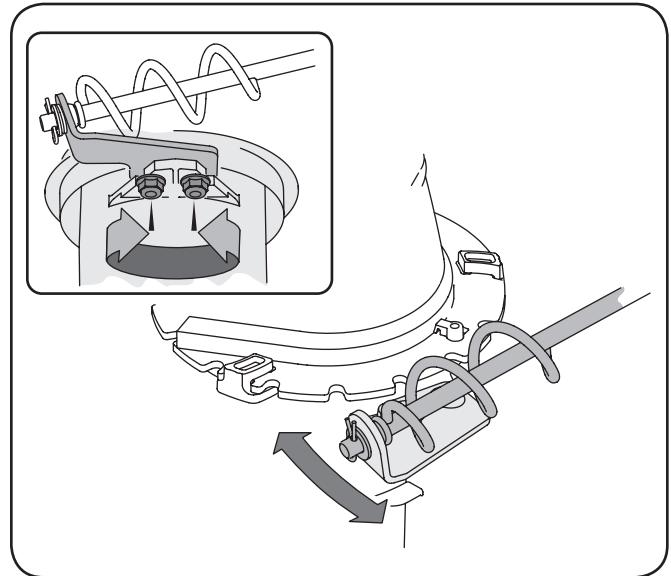

Figure 6-6
1. Loosen the two nuts which secure the chute bracket and reposition it slightly. See Fig. 6-6.